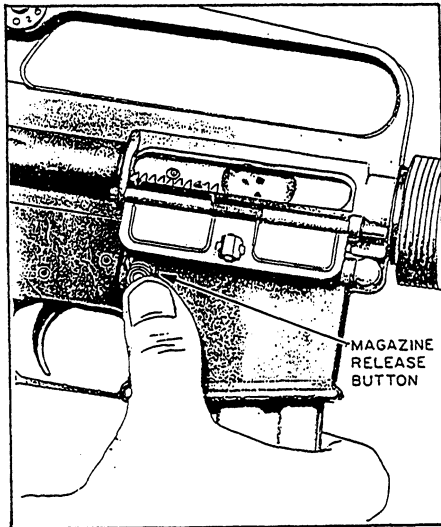

Figure 3-6.—Removing the magazine.
2. Remove the magazine, as shown in figure 3-6. Grasp it with the right hand (fingers curled around the front of the magazine, thumb placed on the magazine catch button). Apply pressure on the magazine catch button with the thumb, and pull the magazine straight out of the weapon.